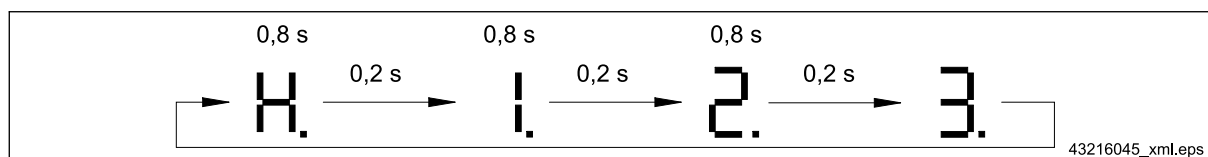

Fig. 9 Example: 123 hours of operation
- Operating hours ⇒ Fig. 9, Page 30,